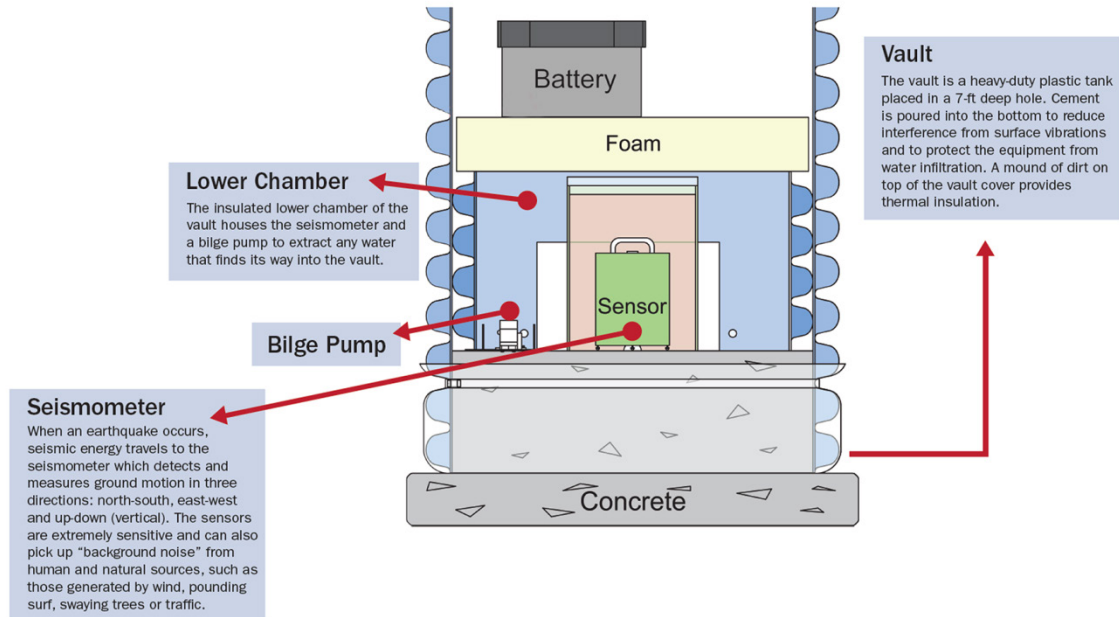
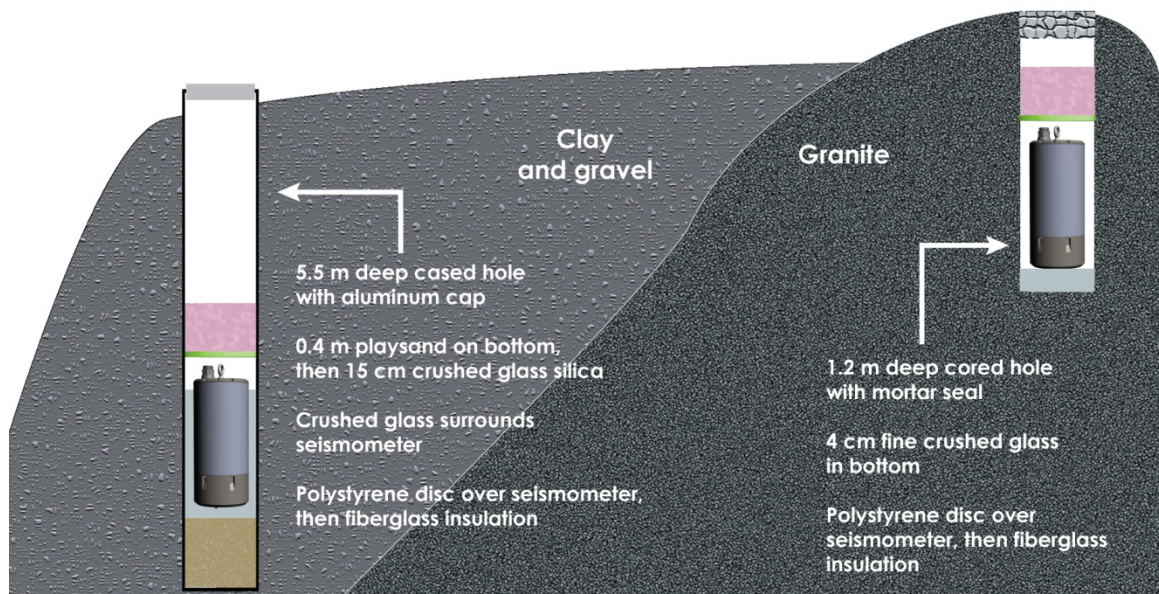

Figure 4 Actual TA.POKR.01 test installation installed at 5 m, with typical posthole seismometer installation in granite
Figure 5 Actual TA.POKR.01 test installation installed at 5 m, with typical posthole seismometer installation in granite
Figure 4 illustrates a typical transportable array (TA) vault installation, while the 5.5 m Trillium Posthole installation in Figure 5 shows an actual installation at the TA.POKR.01 test station. Comparing the two illustrations, it is obvious to see that the effort, complexity, and footprint involved in a vault installation far outweigh that of a posthole installation.